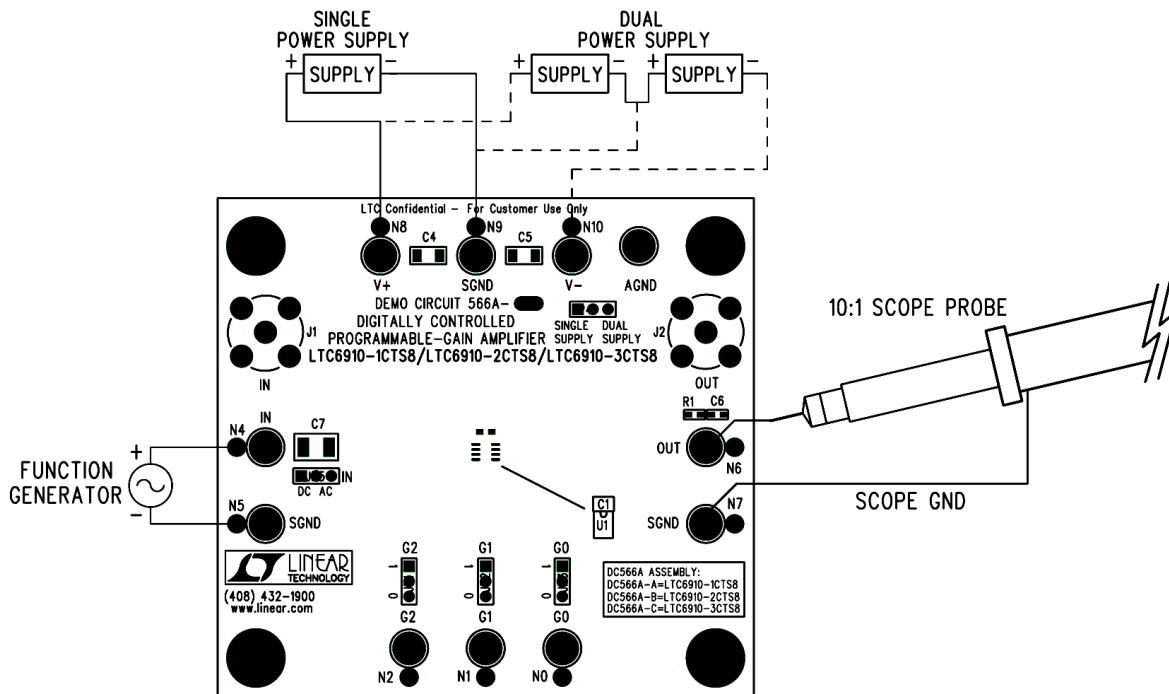

Figure 4. Proper Measurement Equipment Setup
The 566 family of Demonstration boards allow for easy evaluation of the performance of the LTC6910 series of PGAs. Refer to Figure 4 for proper measurement equipment setup and follow the procedure given below:
5. Turn on the power supply and connect the signal generator to the IN BNC, or turrets as shown in Figure 4.